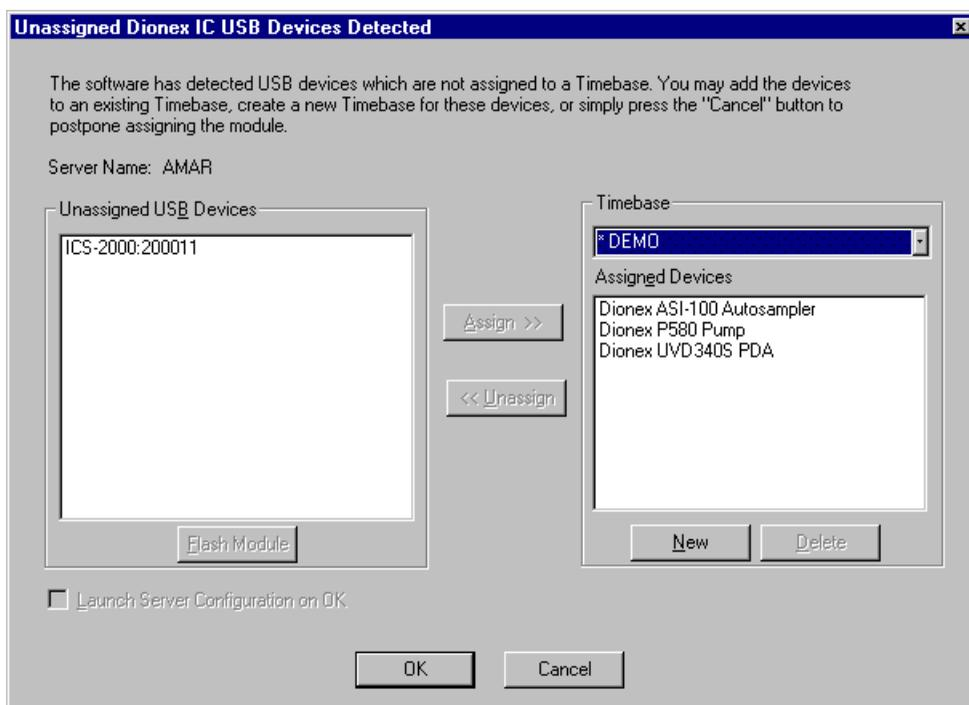

Figure B-10. ICS-2000 Unassigned to Timebase
3. The Unassigned USB Devices dialog box appears (see Figure B-10).